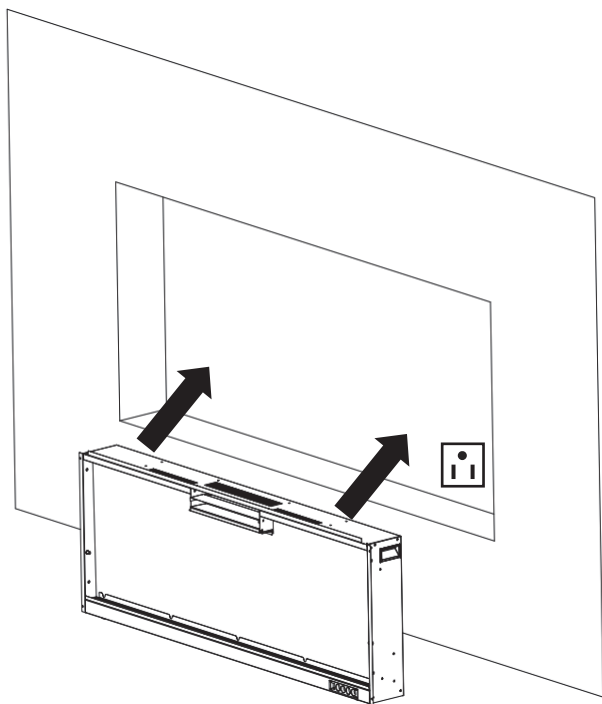
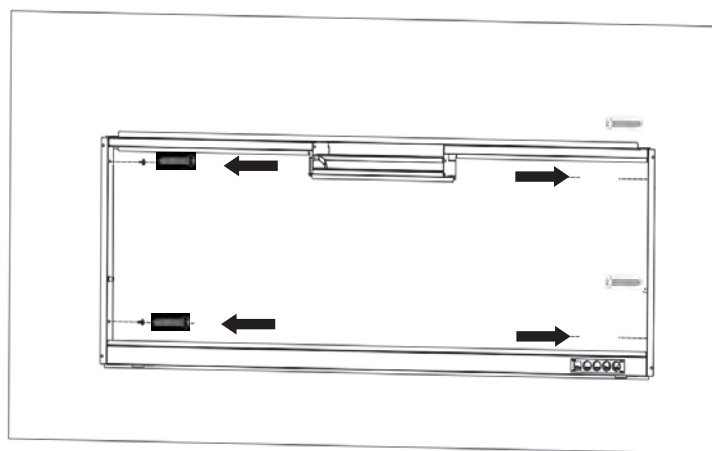

Fig. 2-3
Fig.2-4
- C. Have two adults lift up the fireplace and insert it into the rough-in frame and then secure it by installing 4 wood screws (B) through the holes (Fig. 2-3, Fig. 2-4).